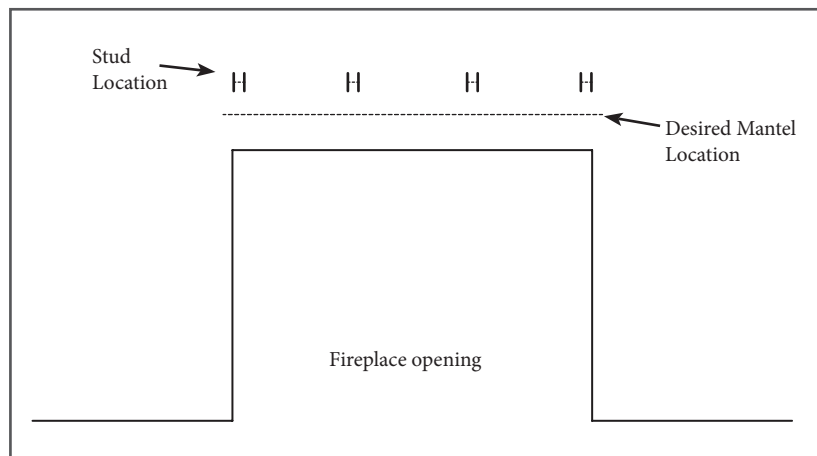

Figure 1
2. Using a stud finder, locate the studs along the area the mantel will be installed. Mark stud locations with a pencil (Figure 1).